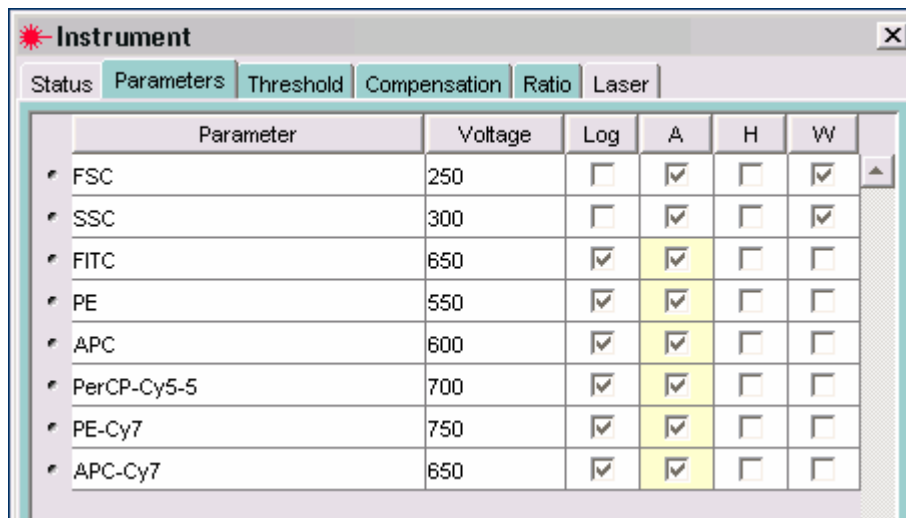

Figure 2
- See **Figure 2** for an example of how the Instrument Window should look for this 6 color experiment.